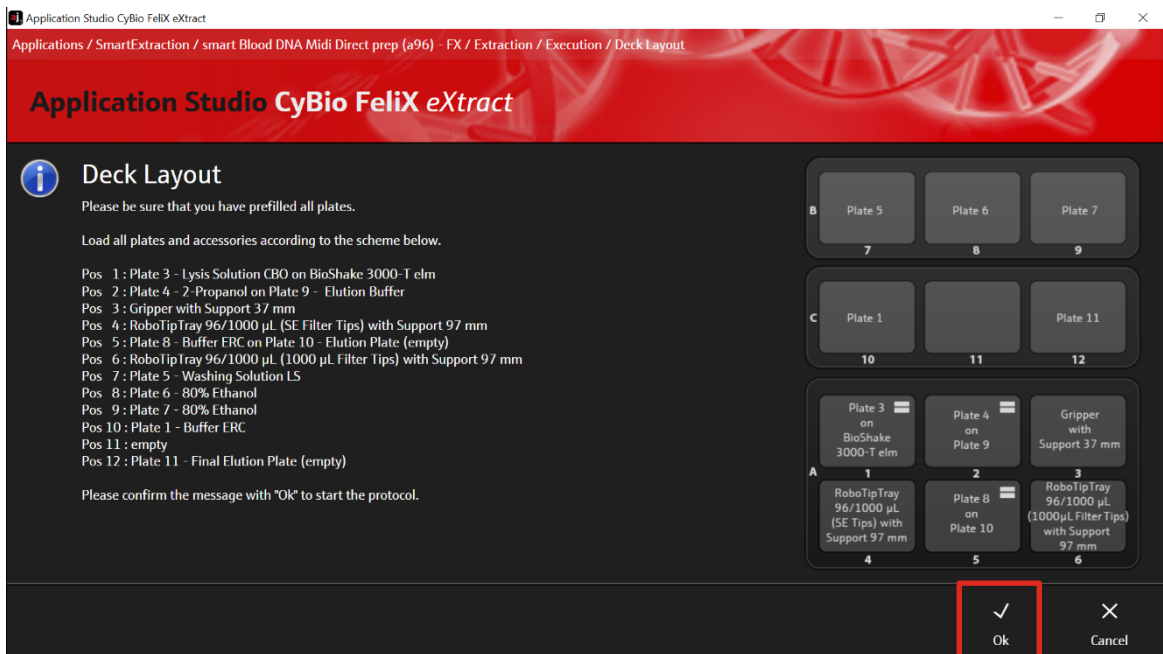

Figure 18: List of deck positions and corresponding plates.
9. Check the correct positioning of plates and accessories on the corresponding deck positions and confirm with "Ok" (→ see Figure 18).